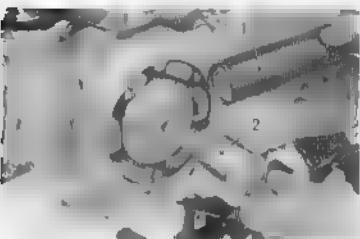

Fig. 5.8 Adjusting the ignition timing advance.
When using a strobe timing light ① to check the timing, idle the engine at 1,200 r.p.m. (Fig. 5.8). If it is found out of timing, perform the adjustment in the same manner as described above.